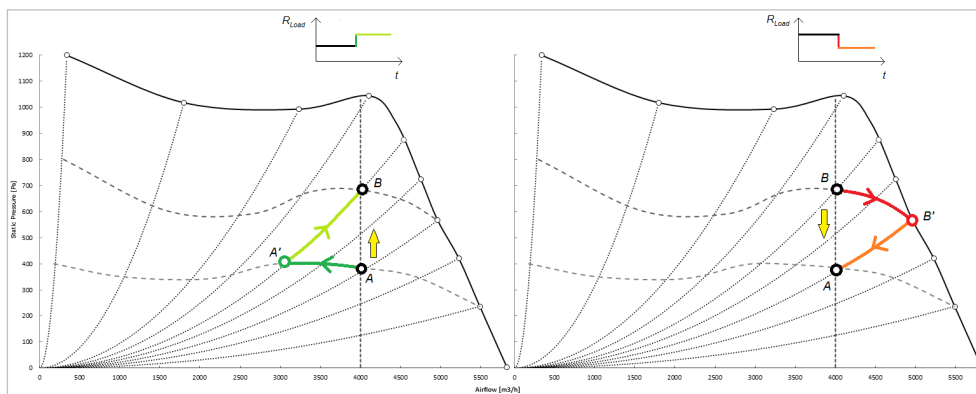

Fig.32 – Constant airflow behavior
The step response in a real system when R_{Load} is suddenly increased first and then suddenly decreased to the starting value is shown in figure 32. The Sensorless Constant Airflow Algorithm of the fan works in terms of Speed (SX) and Power (WX).